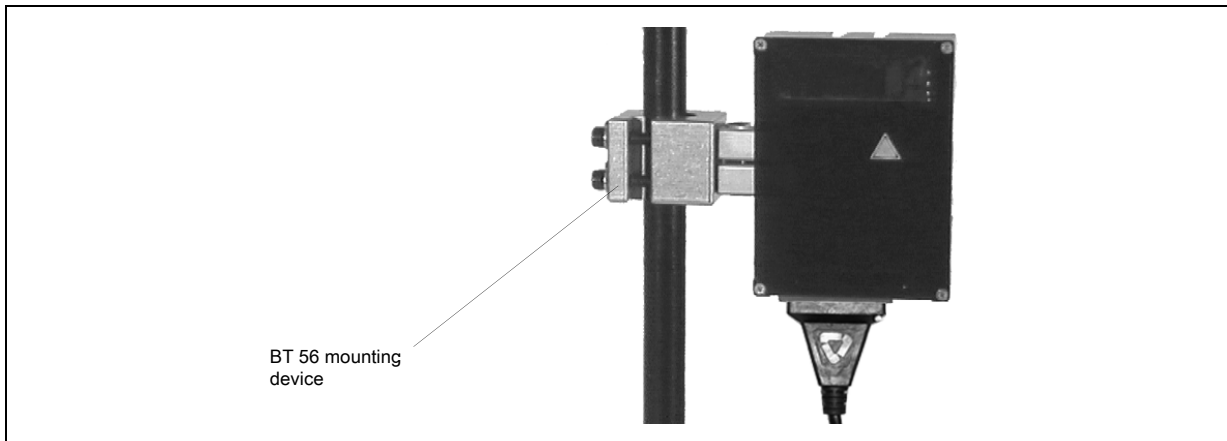

Figure 6.1: Mounting example BPS 37
- Using the dovetail groove and the corresponding mounting accessories see figure 6.1